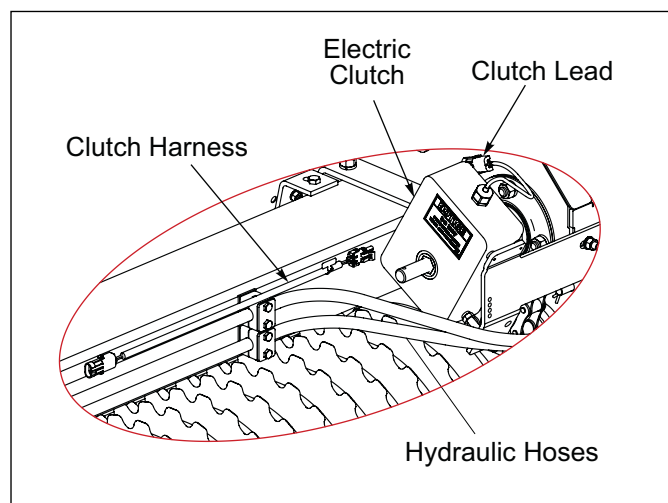

Figure 2-19: Clutch Harness
2. Connect Clutch Harness to Clutch Lead and route along Frame and Drawbar/3-PT Hitch. Secure to Frame and Drawbar/3-PT Hitch or with Hydraulic Hoses and Warning Lamp Harness with tie wraps and Adhesive Mounting Plates. **See Figure 2-19.**